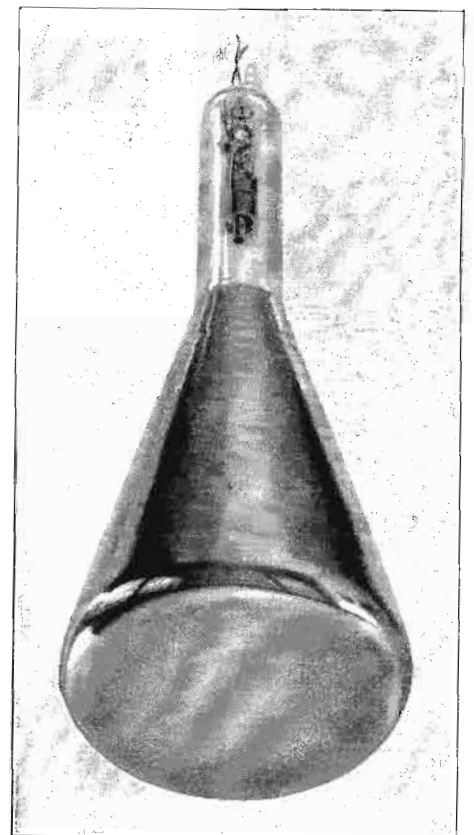
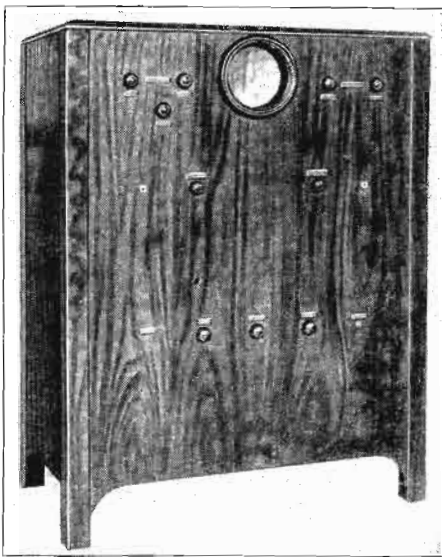
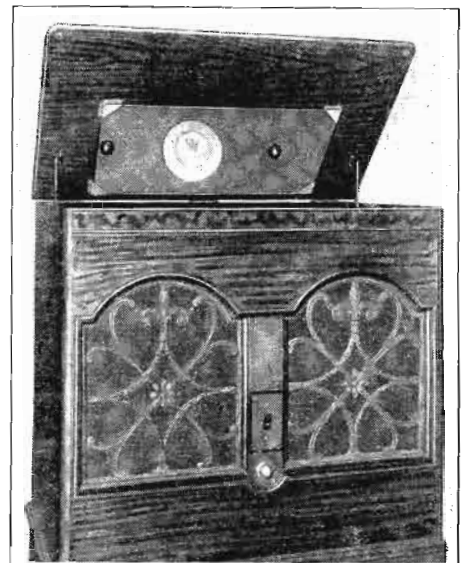

Fig. 6. The type of tube used by Mr. Zworykin in his demonstration is illustrated in this photograph
Fig. 7. This photograph shows one type of the receiver used in the test
Fig. 8. Another type of receiver more suitable for the home is shown in this photograph
is admirably adapted to hum elimination by hum bucking. The arrangement of Fig. 6 shows one practice, and a very simple one, we employ most effectively for hum bucking in the presence of an extremely poor filter. It comprises merely a connection of the filament to a point of preferably variable selection on the resistance R_1 through a condenser C_{hb} of 1/10 microfarad for example. If it were not for the variability in the commercial screen grid tubes the connection to R_1 might well be once determined and left fixed.
For example, Fig. 7 is a simple 2-tube system comprising a 224 screen grid tube as input and a 250 power amplifier as output, supplied from a single half wave 281 rectifier. The general constants are shown or later stated.
The two graphs of Fig. 8 show with the aid of logarithmic abscissae and linear ordinates the measured and plotted voltage gain throughout the entire audio range of the 2-tube system of Fig. 7, the system being the same for the taking of both graphs except for change in the value of coupling resistor R_c and suitable change of screen grid potential, 1/10 megohm being used in one case and 1/4 megohm in the other, as indicated on the graphs. The skeleton diagram accompanying the graphs shows and states the details of the output of the system employed in measuring for these graphs. In Fig. 7
In order to operate on this occasion with the high potential of 180 volts on the plate of the 224 tube, the 400 volts across the 250 tube was divided into the 110 volt and 290 volt portions by high resistances R_6 and R_5 respectively as shown, the high resistances avoiding noticeably increasing the current drain on the filter. R_c was connected at this division, thereby adding 110 volts to the 250 volts in R_2 , a total of 360 volts to divide into 180 volts across coupling resistance R_c and the plate of the 224 tube, this equal division being what we term "symmetrical operation." Of course the 180 volts across R_c is too much for grid bias of the 250 tube, but the opposed 110 volts in R_6 nicely reduces the over-all grid bias to a satisfactory 70 volts. It might be added that generally we operate the systems with a potential distribution on plate and across R_c equal to the normal bias potential of the succeeding power amplifier tube, as in Fig. 6, thereby not requiring the R_5 and R_6 resistance of Fig. 7. In this case only 140 volts is required across the resistance arm, thus making the filter output 540 volts for 250 tube operation.
The mildness of the hum difficulties is apparent from examination of the rectifier and filter system constants of Fig. 7. Here we use a single wave (281) rectifier followed by a single stage filter of 2 and 1 microfarads respectively separated by a 20 henry choke. The 2 microfarad condenser is really not used because needed for filtering, but to develop the required high potential from the 281 tube. Another high voltage 1 microfarad condenser is used in the signal circuit of the output tube. Even with this cheap and insignificant filter and half wave rectifier our hum is well within commercial estimate of what is tolerated. When it is appreciated from Fig. 8 that the gain at 60 and 120 cycles is practically the same as elsewhere, the result is really astounding.
Reference to Fig. 7 also makes clear that there is plenty of high potential and current for energizing the tubes of a preceding frequency amplifier without increased drain on the filter, and also for energizing the field coils of dynamic speakers, the current in the arm R_1 being adequate for this. The system also lends itself to push-pull operation as two complete systems in push-pull relation, or the equivalent of simple push-pull output tubes, but in view of the extremely fine characteristics we really see no need for push-pull for the reasons it is now so generally employed. Photo-electric cell operation becomes a simple and satisfactory matter through the medium of the very high gain amplifier.
The brightness of the line can be controlled to any desired extent by a negative bias on the controlling element. The bias controls the mean intensity of the picture whose lights and shadows are super-imposed upon this mean intensity. It is evident that if we apply to this controlling electrode the amplified impulses from the transmitter and at the same time deflect the beam in synchronism with the motion of the light beam across the picture on the film, the picture will be reproduced on the fluorescent screen. Figs. 7 and 8 show a general view of two types of receivers.